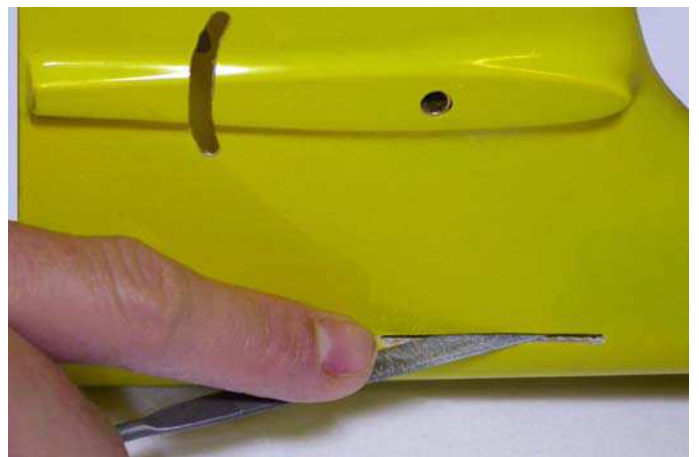

Fig.31: .Finish the opening.
- using a flat file, finish the opening (see figure 31);